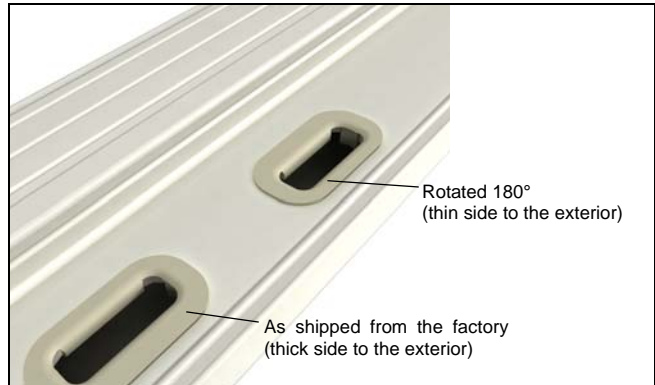

Figure 6
- Rotate the strike 180° and press the strike back into the sill, keeping the strike parallel with the sill surface. See figure 6.